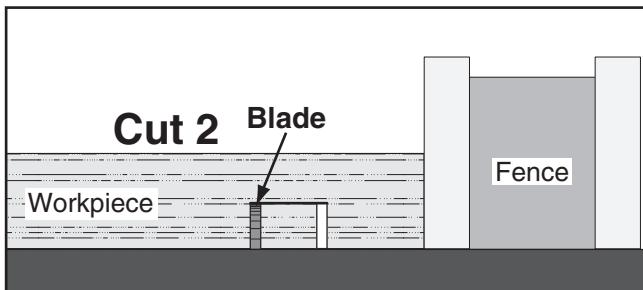

Figure 65. Second cut for a single-blade dado.
- Repeat cutting operation on other side of dado, as shown in **Figure 65**.